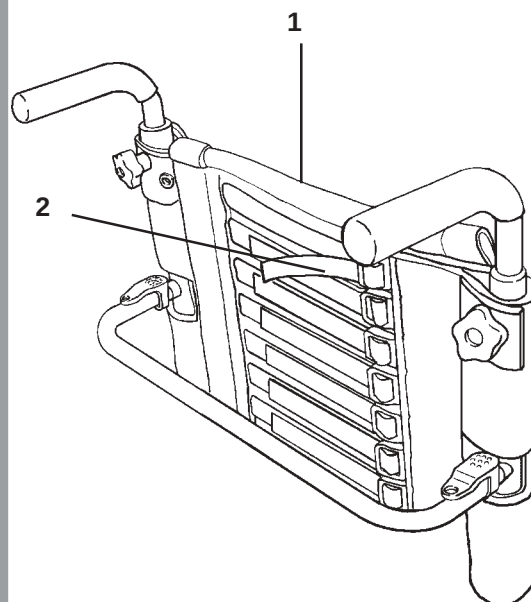

Fig. 34
To adjust the upholstery first lift up the back flap (1) covering the strips, with the user sitting in the chair, proceed to loosen or tighten each individual strap (2) (Fig. 34).